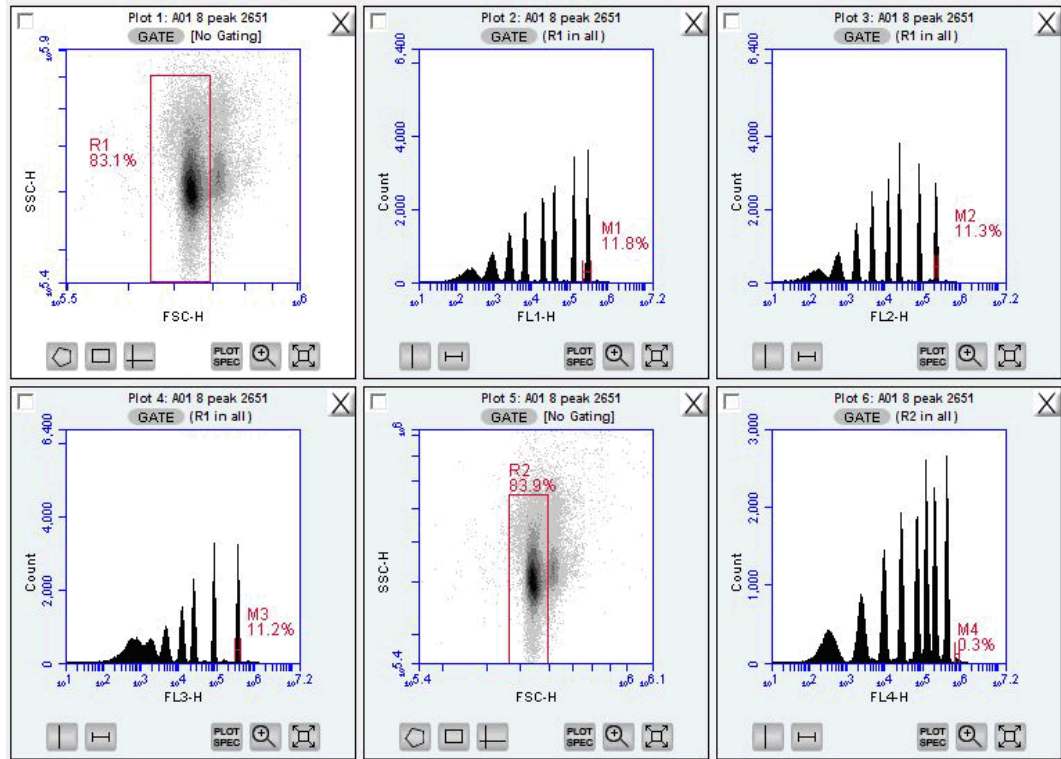

Figure 3-13. 8-Peak Validation Bead Data
- Compare the bead run to the manufacturing results sent with the flow cytometer. If the flow cytometer is performing properly, the data plots should look similar to the 8-peak bead plots in Figure 3-13. Look for the following: